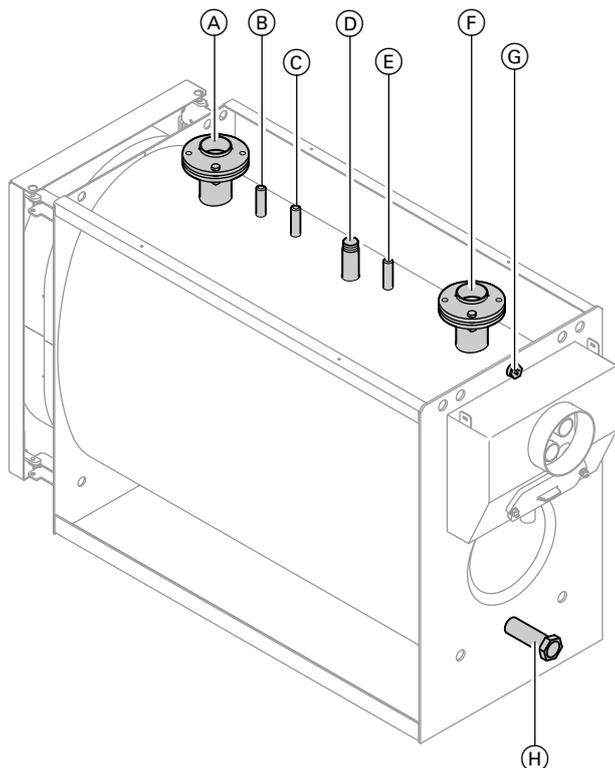

Fig. 9 140 to 500 kW
- Minimum pressure limiter (connection Ⓒ); see Fig. 9). This requires the fitting assembly.